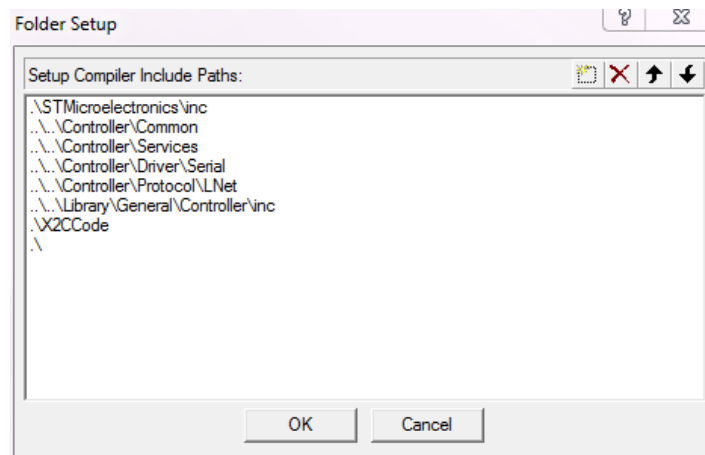

Figure 21: Keil  $\mu$ Vision include paths setting
3. In the *Keil  $\mu$ Vision* file structure of the *Blinky* demo project are two virtual folders *Blocks* and *Core*, which are linked relatively to the *X2C* directory. If the *Blinky* demo project is copied/moved to a different location, the include paths as seen in Figure 21 have to be adapted.